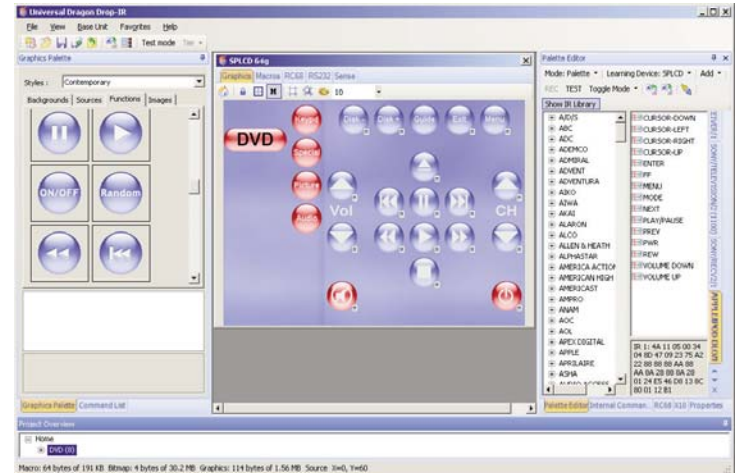

Figure 15: SPLCD DVD control screen created with AutoBuild Wizard
Universal Dragon includes an AutoBuild Wizard (*File > AutoBuild Wizard*) that streamlines the process of creating individual SPLCD component control screens (see *Figure 15*). AutoBuild Wizard creates complete component control screens (including some basic macros) in just a few steps. This can save you a great deal of programming time, while still providing you with the ability to customize each screen for the customer's specific desires and the installation's specific requirements.
7. Once you have programmed all of the home layer function buttons, select the *Source* Graphic Elements Tab (see Figure 15). Drop the desired Source buttons (one for each device to be controlled) onto the home layer (make sure that you're on the home layer before adding each Source button). You can program their macros (as described in *Build Macros*, on page 4) now, or at a later time.